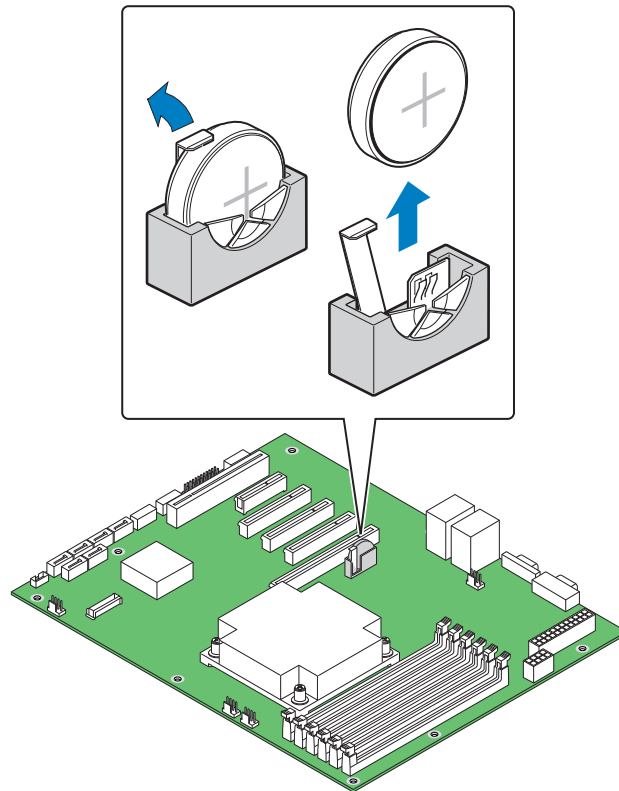

Figure 18. Removing the Battery
5. Lift the battery retention mechanism (see Figure 18).